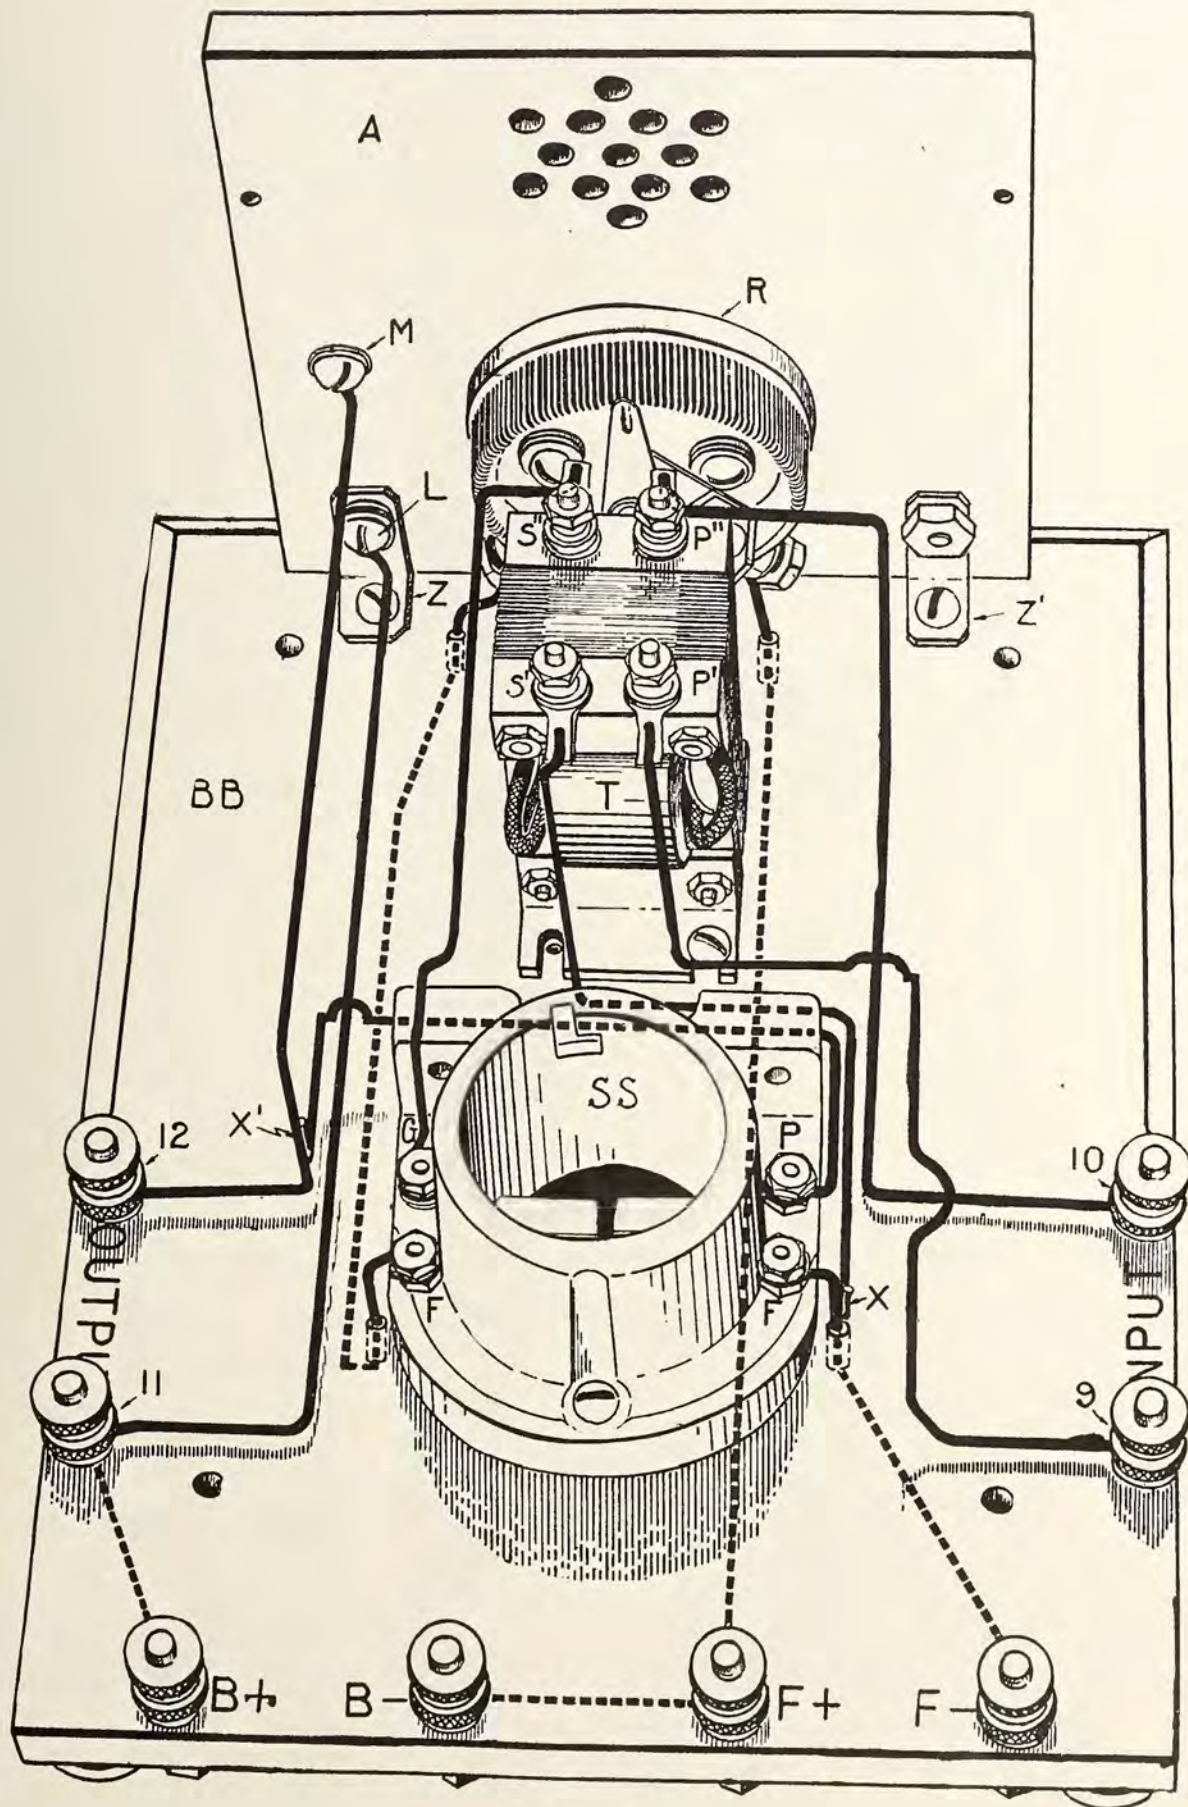
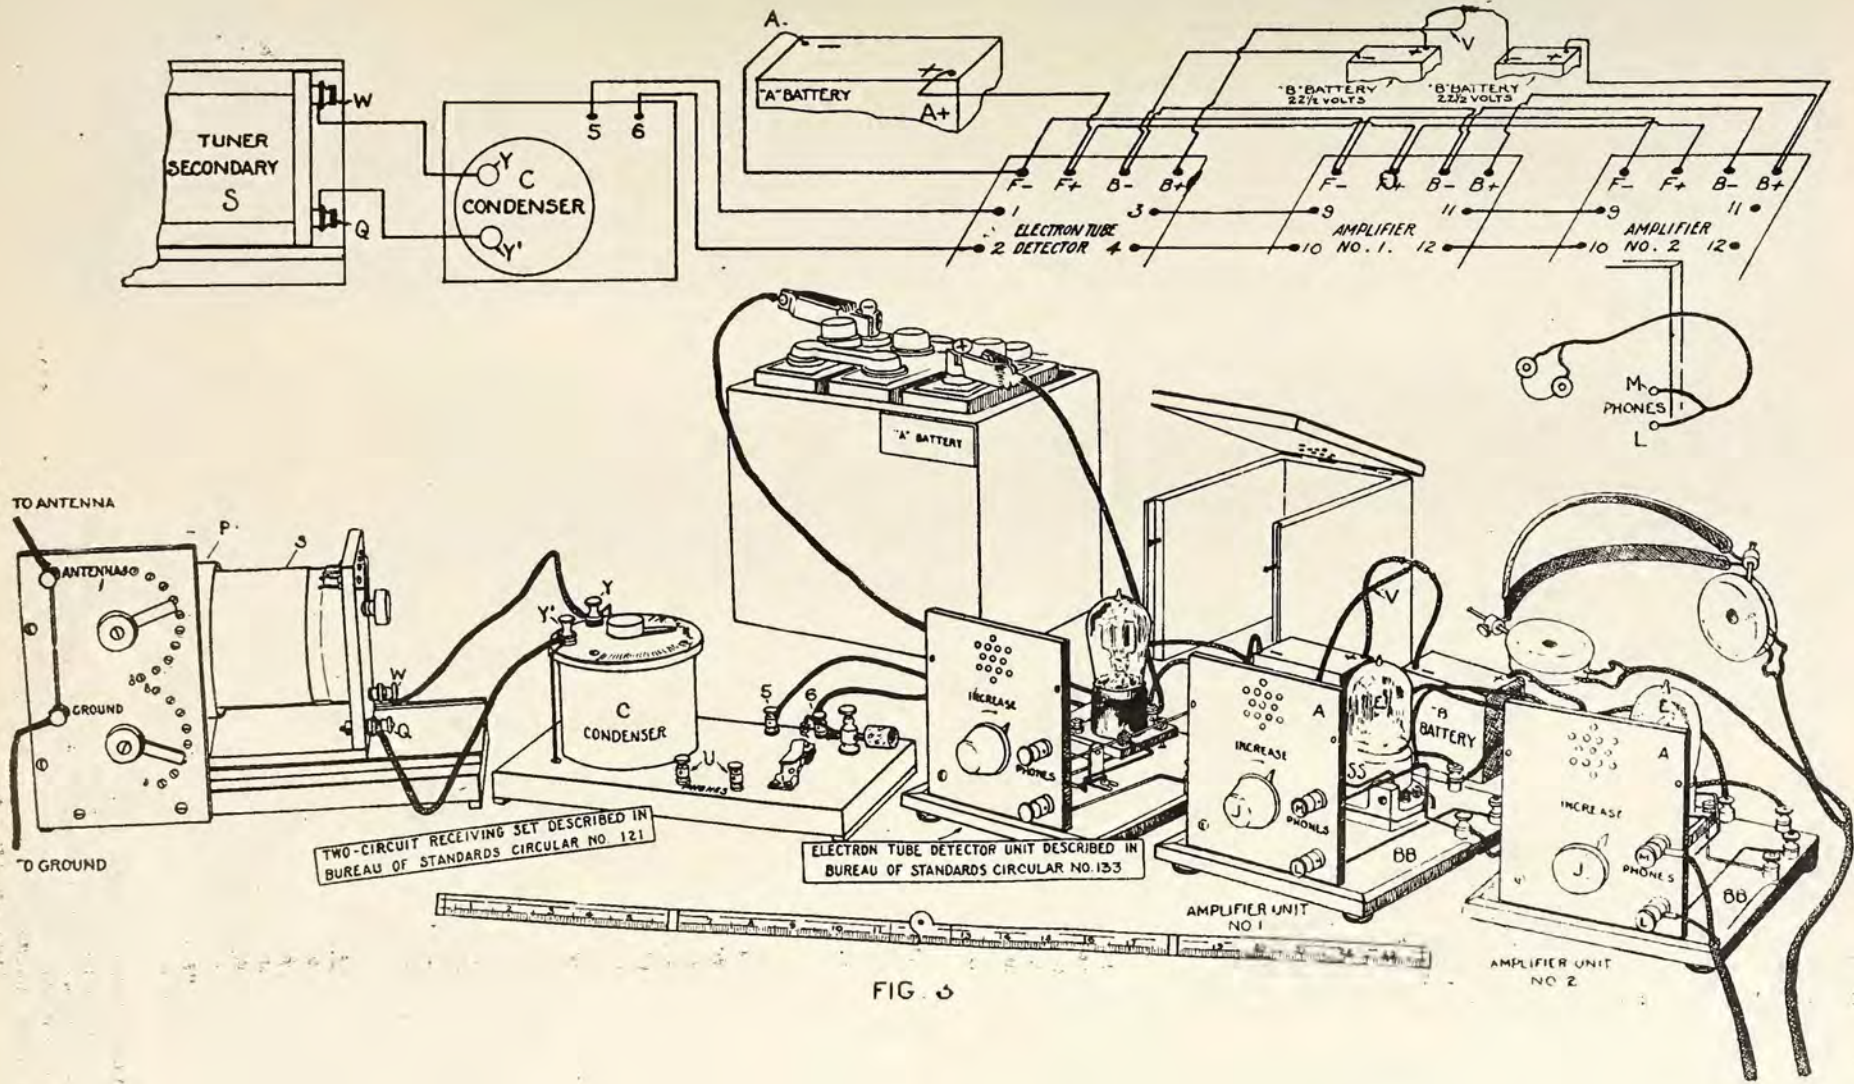

FIG. 1.
FIG. 3
*Audio-frequency Amplifier Unit* (Figs. 1 and 3).—The audio-frequency amplifier unit is composed of a baseboard *BB* and an upright panel *A*. On the baseboard *BB* is mounted an electron tube socket *SS*, an audio-frequency amplifier transformer *T*, and eight binding posts. On the upright panel *A* is mounted a filament rheostat *R* (the adjusting knob *J* is shown in Fig. 3) and two telephone receiver binding posts *L* and *M*.
*Baseboards (BB, Figs. 1 and 3).*—The base *BB* is any kind of dry, well seasoned wood about 6 1-4 inches by 8 1-4 inches by 1-2 inch thick. Eight holes are drilled through the base in which the binding posts are fastened. The binding posts are spaced so that they present a neat appearance or according to the dimensions given in Fig. 3, Bureau of Standards L. C. 48 or Circular No. 133. The baseboard is arranged so that the three remaining sides and a hinged cover may be added without changing the positions of the binding posts. Under each of the four corners of the baseboard
*Upright Panels (A, Figs. 1 and 3).*—The panel *A* is any suitable dry, seasoned wood about 4 1-2 inches by 5 inches by 3-8 inch thick. In Fig. 1 a back view of the panel is shown which brings the two holes for the telephone receiver binding posts *L* and *M* in the lower left corner. (If the panel is viewed from the front these two holes will be at the lower right corner). This panel is made to present a good appearance, it being the front panel. Four holes are drilled in the panel *A*, one for the bolt which fastens the panel to the brace, (see *Z*, Fig. 1.) two for the telephone receiver binding posts *L* and *M* (Figs. 1 and 3) and one for the shaft of the filament rheostat *R* (See Fig. 1). The exact location and diameter of the hole for the rheostat shaft is determined from the rheostat itself. It is drilled so that the rheostat occupies as low a position as possible, allowing room enough to do the necessary wiring. Satisfactory upright panel measurements are given in Fig. 4 of Bureau of Standards L. C. 48 or Circular No. 133.
*Electron Tube (E, Fig. 3).*—The electron tube is a commercially available tube generally called an amplifier tube or "hard" tube. The several parts of an electron tube (sometimes called a vacuum tube) are described in "The Principles Underlying Radio Communication," Chapter 6.
*Electron Tube Socket (SS, Figs. 1 and 3).*—The electron tube socket is one of various commercially available types.
*Audio-frequency Amplifier Transformer (T, Fig. 1).*—The audio-frequency amplifier transformer is one of the various commercially available types.
*Binding Posts.*—The binding posts used on the baseboard are 6-32 or 8-32 brass machine screws each equipped with two nuts and two washers, if regular binding posts are not used. The telephone receiver binding posts, *L* and *M* (Figs. 1 and 3) are of the set-screw type to admit the tips of the telephone receiver cords.
*Filament Rheostat (R, Fig. 1).*—The filament rheostat is one of the various commercially available types designed for panel mounting and having a neat appearing knob and pointer. The rheostat has a resistance of about seven ohms and a current-carrying capacity of about 1 1-2 amperes.
Satisfactory dimensions for the brass angle braces are given in Fig. 1, Bureau of Standards L. C. 48 or Circular No. 133.
**Baseboard** (Fig. 1).—The eight brass machine screws or binding posts are put in the holes already drilled in the baseboard. If machine screws are used the heads are put on the under side of the baseboard with a brass washer between the head and the baseboard. A brass washer and two nuts are then fastened to each screw, on the upper side of the baseboard, with the washer next to the baseboard.
The tube socket, *SS*, and the transformer *T* are next screwed to the baseboard. The exact location of these parts varies according to the particular type used. One can get an idea of the relative position of the several parts from Fig. 2. The tube socket *SS* is mounted so that the two terminals marked *G* and *P* (Fig. 1) are nearest the upright panel. Wood blocks are put under the socket *SS*, when necessary, so that the four terminals of the socket do not touch the wood baseboard. This is done by cutting off two round wood blocks just long enough to raise the socket terminals clear of the base, and mounting them so that the screws which hold the socket to the baseboard will pass through holes in the centers of the blocks.
A small hole is drilled through the baseboard near each of the tube socket terminals marked *F* (See Fig. 1). A short piece of wire is fastened to the right socket terminal marked *F* and is then led through the small hole in the baseboard to the under side of the baseboard. The same wire is led to the under side of the binding post marked *F* and fastened between the machine screw head and washer underneath the baseboard. All wires which are run on the underside of the baseboard, or are hidden by parts of the apparatus, are shown by dotted lines. A wire is soldered (at *X*) to the wire leading from the right socket terminal marked *F*, just above the baseboard, and led to the secondary terminal *S* of the transformer *T* and soldered or otherwise fastened thereto. This wire is shown as part solid and part dotted. The wires do not touch the wood boards except at the terminals and where the wires pass through holes in the baseboard. The wires may be raised more or less to accomplish this. Another wire is soldered to a primary terminal *P'*, of the transformer and led to the "input" binding post No. 9. Humps or bends are shown in this and other wires to indicate that the wires cross but do not touch.
**Upright Panel** (A, Fig. 1).—The filament rheostat *R* is mounted on the upright panel *A* so that the two terminals will be in a convenient position for wiring. Two binding posts of the set-screw, *L* and *M*, (Figs. 1 and 3) are inserted in their proper holes, and the upright panel mounted in position by bolting it to the two brass angle pieces (*Z* and *Z'*) shown in Fig. 1. One of the telephone receiver binding posts *L* serves as a bolt. Two small holes are drilled through the baseboard near the two terminals of the filament rheostat *R*. A wire is run from the "output" binding post No. 11 (Fig. 1) along the upper side of the baseboard to the back of the telephone receiver binding post marked *L*. A wire is fastened to the other "output" binding post (No. 12) and led to the rear of the
A wire is run from one of the filament rheostat binding posts through the hole in the baseboard and thence along the under side of the baseboard to the binding post marked *F+* and is continued from *F+*, still underneath the baseboard, to the binding post marked *B-*. This wire is shown in Fig. 1 by a dotted line. Likewise a wire is run from the other rheostat binding post, underneath the baseboard and up through the left hole in the baseboard at the rear of the electron tube socket *SS* and connected to the left binding post marked *F*. This completes the assembling and wiring of the audio-frequency amplifier unit.
If the two-circuit tuner and the electron tube detector are used with the audio-frequency amplifier unit, the several parts are arranged as shown in Fig. 3. Two amplifier units are shown making a two-stage amplifier. If only one unit is used the connections are correspondingly simple. If a "hard" or amplifier tube is used in the electron tube detector unit, the connection *V* from the "B" battery is not used, but instead the wire *V* is connected to the binding post *B+* amplifier No. 1. Increasing the number of "B" batteries used to supply voltage to the plates of the amplifier tubes will usually increase the intensity or loudness of the amplifier radio signals, but at the same time the Quality of the tone will be impaired. The voltage should never be increased to as much as twice the rated plate voltage of the electron tube.
If the single circuit tuner and electron tube detector are used with the audio-frequency amplifier, the arrangement of the parts is also similar to that shown in Fig. 3 except that the single-circuit tuner (as described in Bureau of Standards Circular No. 120 and altered in Fig. 5, Bureau of Standards L. C. 48 or Circular No. 133) replaces the two-circuit receiving set. The binding posts, 5 and 6, on the single-circuit tuner are connected to the electron tube detector binding posts Nos. 1 and 2, respectively.
If the electron tube detector is not available, one method of connection is to use the audio-frequency amplifier with the single-circuit or the two-circuit radio receiving set shown in Bureau of Standards L. C. 48 or Circular No. 133. In this case the telephone receiver binding posts (+, Fig. 5, or *U*, Fig. 6, L. C. 48 or Circular No. 133) are connected directly to the amplifier "input" binding posts 9 and 10. The connections to the "A" and "B" batteries are the same as shown in Fig. 3 of this circular except that the wiring to the electron tube detector
The antenna and ground wires are connected as described in Bureau of Standards Circular, No. 120, and as shown in Fig. 3.
The two filament rheostat knobs marked  $J$  (Fig. 3) on the two audio-frequency amplifier units, and also the filament rheostat knob on the electron tube detector unit, are turned to the extreme left or to the "off" position. Two electron tubes marked  $E$  ("hard" or amplifier tubes) are inserted in the sockets of the amplifier units (Nos. 1 and 2) and a third electron tube (preferably a "soft" or gas Tube) is inserted in the socket of the electron tube detector unit. The three filament rheostat knobs are then turned to the right until the filaments of the electron tubes become lighted, the brilliancy depending upon the type of electron tubes used. When one of the telephone receiver terminals is removed from its binding post (either  $L$  or  $M$ ) and again touched to the post, a sharp "click" in the telephone receivers will be an approximate indication that the circuit is in working condition. If the test buzzer, as described in Bureau of Standards Circular, No. 120, is available it is attached by a flexible wire to the binding post  $W$  on the two-circuit tuner, or if the single-circuit tuner is used, the test buzzer is attached to the binding post marked "Ground," to determine when the detector is in working condition.
When the crystal detector is not used the electron tube detector unit is merely substituted for it as shown in Fig. 3 and the tuning of the receiving circuit is the same as described in Bureau of Standards Circular No. 120 and 121. When the signals from a desired transmitting station are heard as loud as possible by tuning, the intensity is sometimes improved by adjusting one or more of the knobs on the filament rheostats so as to increase or decrease the filament current (current from the "A" battery). The knobs are kept in the positions of minimum filament currents without reducing the strength of the incoming signals.
If the electron tube detector unit is equipped with a "soft" or "gas" tube, the voltage of the "B" battery is changed until the greatest signal intensity is obtained. This necessitates the use of a tapped "B" battery. This means that the wire  $V$  (Fig. 3), instead of connecting to the wire which connects the two "B" batteries, is provided with a clip which is connected to successive tapped terminals on one of the "B" batteries until the required voltage is obtained.
To determine if the various parts of the receiving circuit are in working condition the telephone receivers are removed from the "phone" binding posts on the amplifier unit and connected to the "phone" binding posts on the crystal detector receiving set. The wires connecting to binding posts 5 and 6 (Fig. 3) are temporarily removed and the fine coiled wire brought in contact with the crystal. The receiving set is then adjusted as described in Bureau of Standards Circular No. 120 or 121. This furnishes a means of ascertaining if the tuner is in working condition and also the crystal detector, although the latter is of course not used with the electron tube detector and amplifier units unless the electron tube detector unit is omitted.